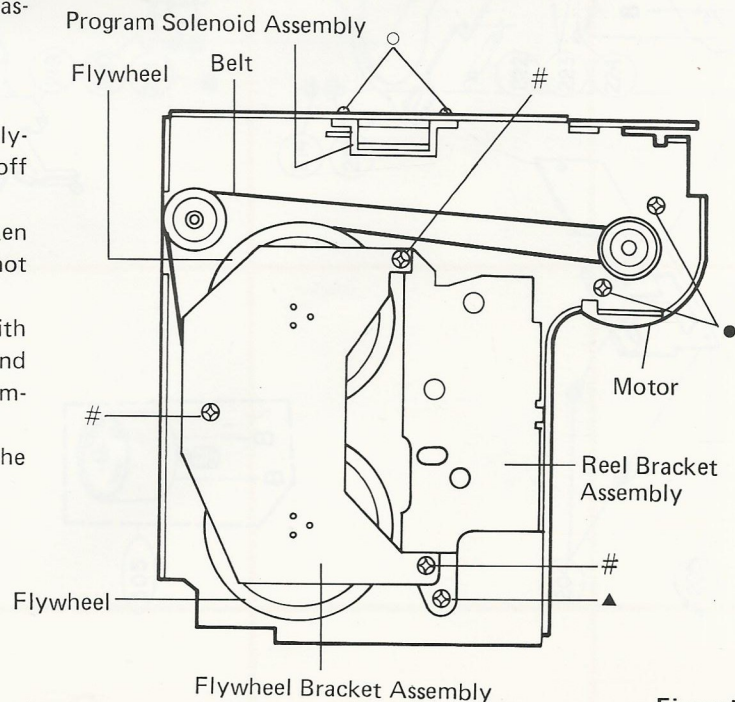

Figure 7
- (1) Remove two screws marked "●" as shown in Figure 7.
- (2) Remove a lead wire from the motor side to remove the motor.
- (3) After replacing the motor with a new one, assemble it in the opposite way to disassembly.
- (4) After assembling, confirm the tape speed and the wow/flutter with the test tape (MTT-111).
- (1) Remove two screws marked "○" as shown in Figure 7 to remove the program solenoid.
- (2) After replacing the program solenoid with a new one, assemble in it the opposite way to disassembly.
- (1) Remove three screws marked "#" and the flywheel bracket as shown in Figure 7 to take off the belt and the flywheel.
- (1) Remove two flywheels.
- (2) Remove one screw marked "▲" as shown in Figure 7.